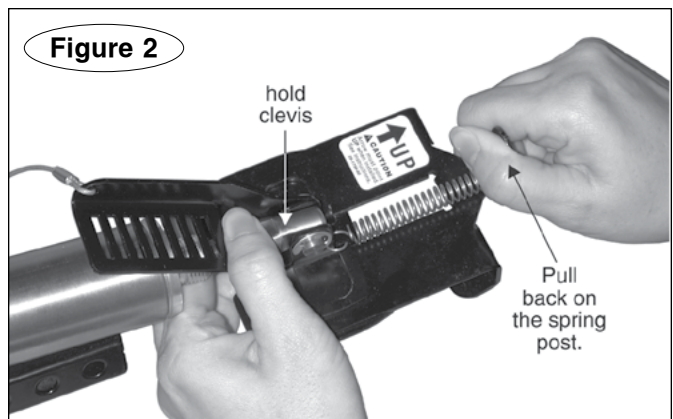

Figure 2
4. Move the pedal clamp over the brake pedal. Then hold the clevis (Figure 2) and pull back on the spring post (Figure 2), until the tabs under the pedal clamp are wide enough to clear the brake pedal.
5. Hold the clevis (Figure 2) and pull back on the spring post until the tabs under the pedal clamp are wide enough to clear the brake pedal, then lift the pedal clamp up.